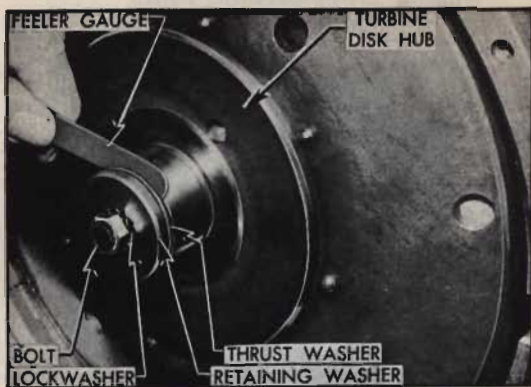

Fig. 19. Checking turbine clearance
15. Install the selective thrust washer, retainer washer, and the bolt with the external tooth lock washer on the front end of the input shaft (Fig. 19). Shift to "Park". Pry up on the reverse band operating lever with a screw driver to lock the input shaft. Using a torque wrench, tighten the bolt to 30-35 ft.-lbs. torque.
16. Using feeler blades, check the clearance between the selective thrust washer and the first turbine hub. (Fig. 19). This clearance should be .002 to .009.